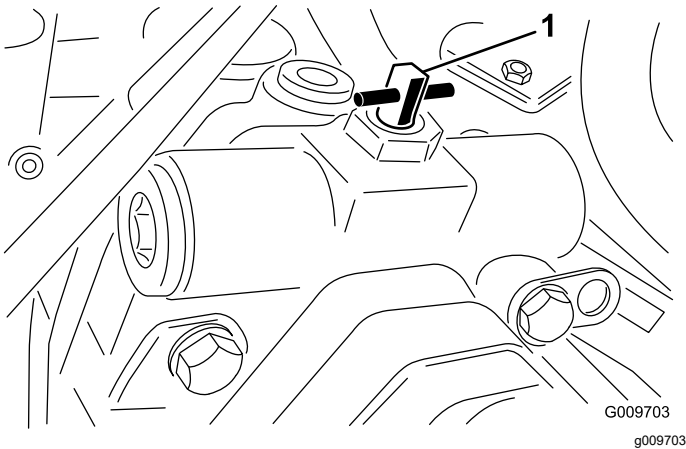

Figure 43
3. Rotate the bypass valve 90° (1/4 turn) in either direction to open it and allow fluid to bypass internally (Figure 43).
2. Rotate the bypass valve 90° (1/4 turn) in either direction to open it and allow fluid to bypass internally (Figure 43).